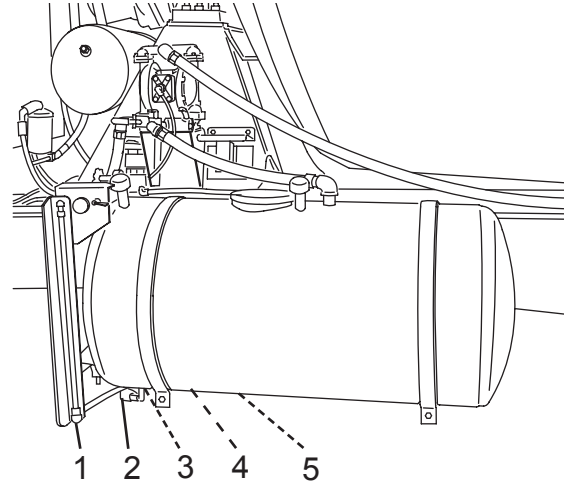

Figure 110
3. Remove the water tank drain plug(s) (Figure 110, Items 3 and 5), or open the drain valve(s) (if equipped).
4. Open the main tank (Figure 110, Item 4) and chemical tank (if equipped) (Figure 110, Item 2) sight glass isolator valves.
5. Open the sight glass drain valve(s) (Figure 110, Item 1).
6. When no more water comes from the tank drain(s), install the water tank drain plug(s) (Figure 110, Items 3 and 5). Tighten the plug(s) until snug.
7. Close the sight glass drain valve(s) (Figure 110, Item 4).